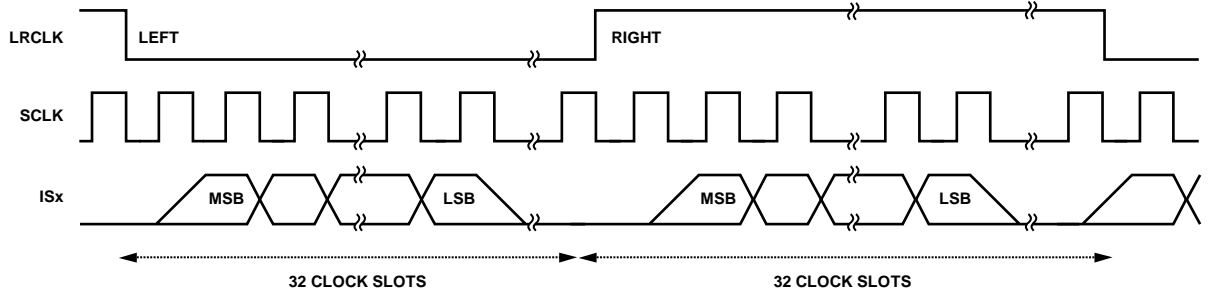
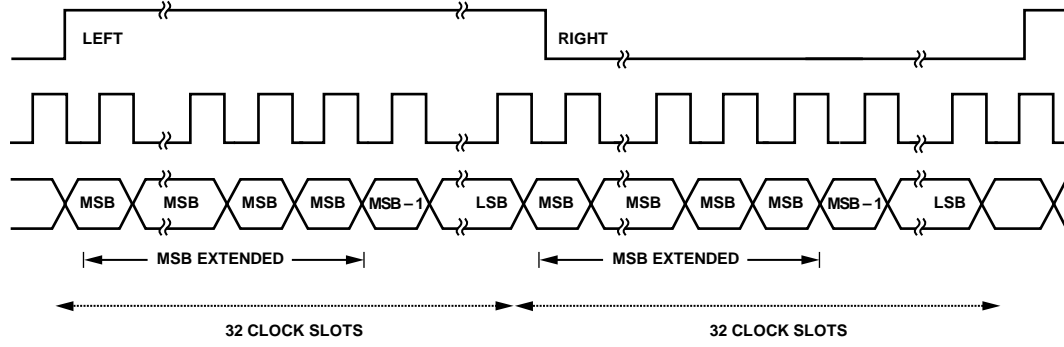
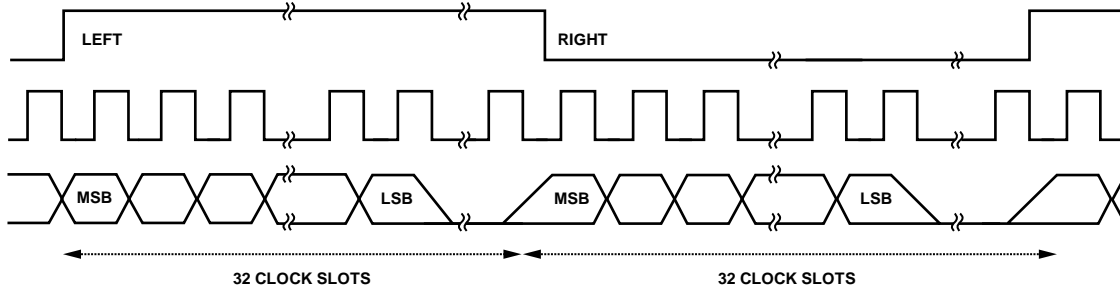

Figure 14. Timing Audio Data Output in I²S Mode
Figure 15. Timing Audio Data Output in Right Justified Mode
Figure 16. Timing Audio Data Output in Left Justified Mode
- L-PCM audio data is output on the audio output pins if the part receives the audio sample packets with L-PCM encoded audio data. Each audio output pin carries stereo data that can be output in I²S, right justified, or left justified mode (see Figure 14, Figure 15, and Figure 16). The I2SOUTMODE[1:0] control must be set to 0x0, 0x01, or 0x2 to output I²S, right justified, and left justified respectively, on the audio output pins.
- I2SOUTMODE must be set to 0x0, 0x01, or 0x2 for I²S, right justified, and left justified format, respectively (see Figure 14, Figure 15, and Figure 16).
- **OVR_MUX_HBR** is set to 1, **MUX_HBR_OUT** is set to 0, and **I2SOUTMODE[1:0]** is set to 0x0 for an I²S mode binary stream (refer to Figure 14).
- **OVR_MUX_HBR** is set to 1, **MUX_HBR_OUT** is set to 0, and **I2SOUTMODE[1:0]** is set to 0x1 for a right justified stream (refer to Figure 15).
- **OVR_MUX_HBR** is set to 1, **MUX_HBR_OUT** is set to 0, and **I2SOUTMODE[1:0]** is set to 0x2 for a left justified stream (refer to Figure 16).